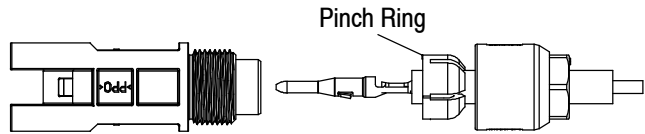

Figure 5
3. Assemble the pinch ring (see Figure 5) before inserting contact if the connector is not preassembled.